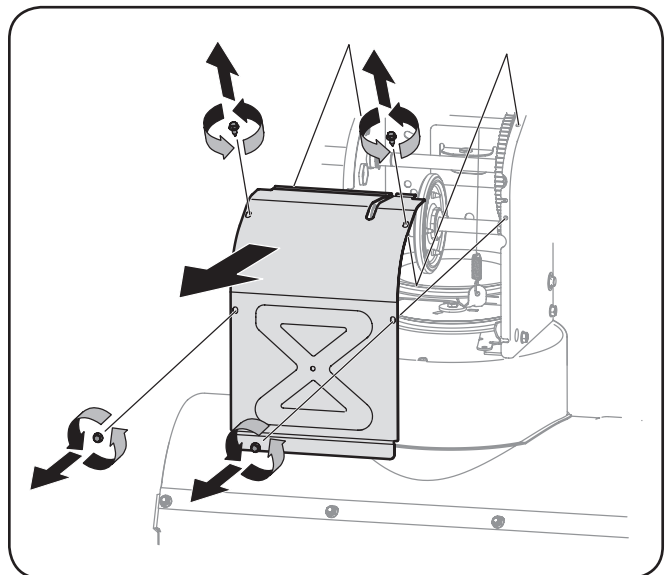

**Figure 7-4**
6. Remove the frame cover from the underside of the snow thrower by removing the self-tapping screws which secure it. See Figure 7-4.
3. Remove the frame cover from the underside of the snow thrower by removing four self-tapping screws which secure it. See Figure 7-4.